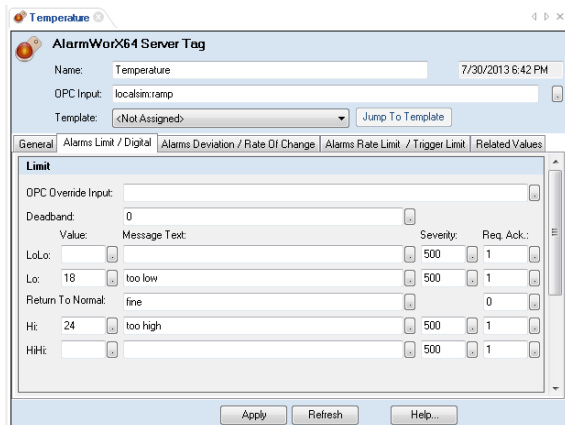

Figure 11 - Creating a Limit/Digital Alarm
26. Click on the **Alarms Limit/Digital** tab and configure the **Limits** as shown in Figure 11 and click Apply.